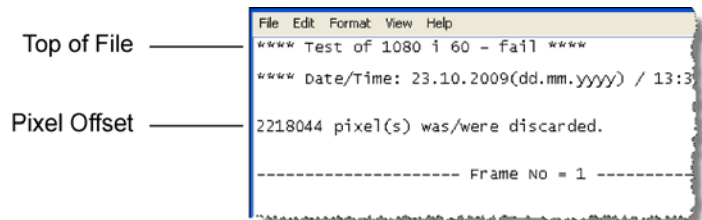

Figure 40 Pixel Offset to First Frame
- 2** At the top of the file, locate the number of pixels discarded as shown in Figure 40. This is the pixel offset for the first frame.